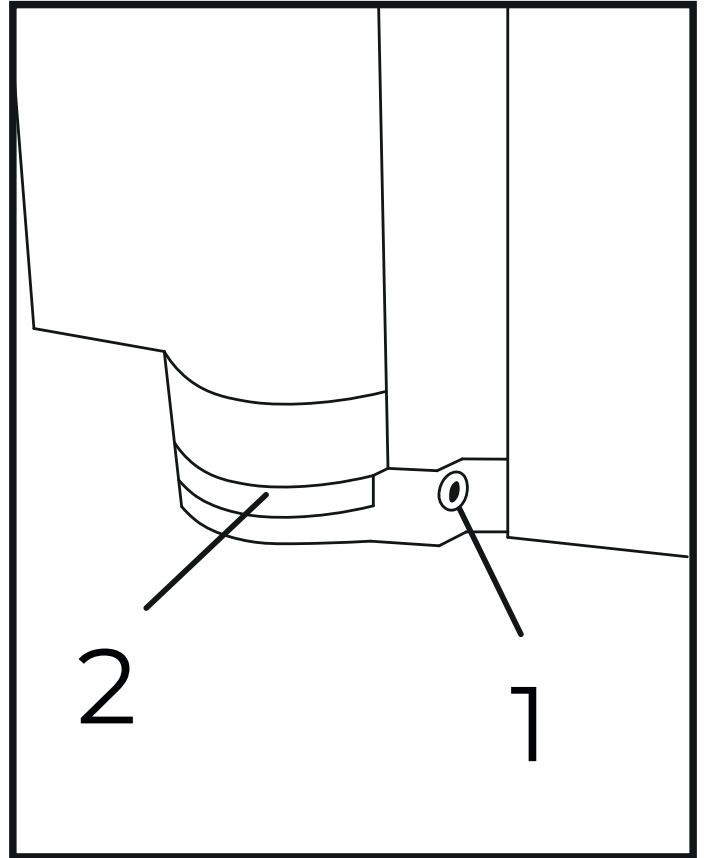

Figure 8
14. To adjust the mono hinge, loosen both mounting screws (1) on the washer by a few turns using the included Allen key. (Figure 8)
15. Move the glass (2) to the desired position where you want to secure the door.
16. Once the glass (2) is in the desired position, tighten the washer mounting screws (1).